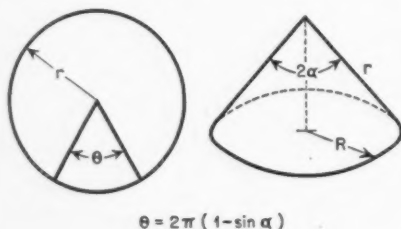

Fig. 5.
**Solution:** Referring to Fig. 5: Let the sector central angle be  $\theta$ ; let the apex angle of the cone be  $2\alpha$ .